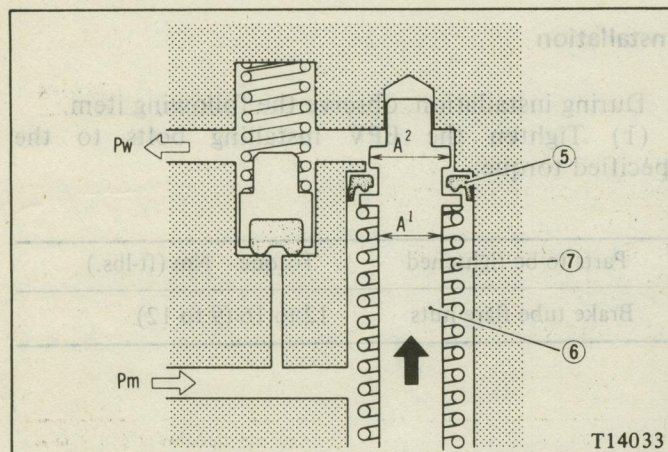

Fig. 15 BPV out of Operation
(1) When P_m is not higher than 2.65 MPa (384 psi), P piston (6) is pushed by P spring (7) in the direction indicated by the arrow due to a lower fluid pressure (See Fig. 15). Thus the fluid from the master cylinder will not be subjected to decompression as it is delivered to the rear wheel cylinder through the gap between P piston (6) and P seal (5). The fluid pressure can be expressed by the following equation:
As P_m further increases, P piston (6) is driven back and in an instant higher master cylinder pressure is delivered to the rear wheel cylinder between P seal and P piston. This causes P piston (6) to be driven again in the direction as indicated by the arrow shown in Fig. 15 until it comes in close contact with P seal (5) and the fluid will be closed.